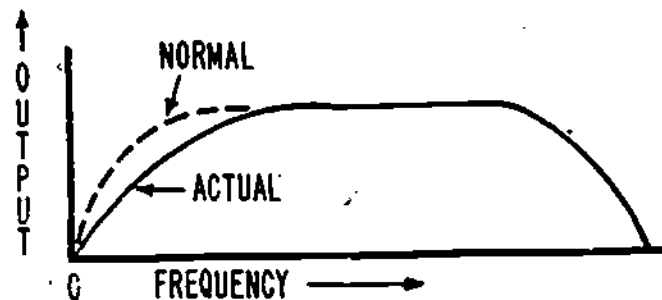

Figure 26
23. A technician can use the sweep frequency generator to test a video amplifier by comparing the actual frequency response curve to the normal, or expected, curve. As an example, Figure 26 shows both actual and normal frequency response curves for a test video amplifier.
The display in Figure 26 was produced by injecting a signal from a _____ generator into a test video amplifier.